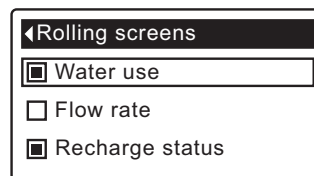

FIG. 44
5. Press the SELECT (O) button to display the Rolling screens menu (See Figure 44).